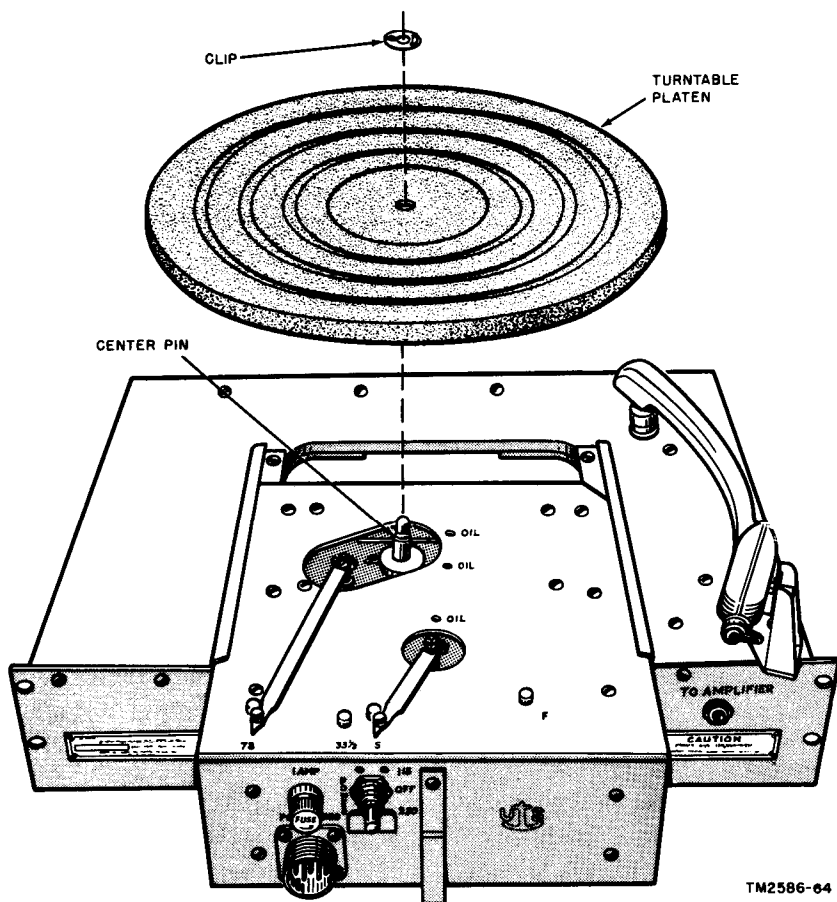

Figure 29. Turntable chassis, platen, and clip, extended view.
- (4) Place the tip of Knife TL-29 under the needle.
- (5) Pry the needle out.
- (6) Aline the thick end of the new needle with the needle hole in the pickup arm.
- (7) Insert the new needle into the hole. Be careful not to bend or damage the needle.
- (8) Turn the turnover knob to the other position if it is necessary to change the other needle, and proceed as instructed in (4) through (7) above.
- (9) Lower the pickup arm and set it on the pickup arm rest.
- c. *Turntable Platen* (fig. 29). To remove the turntable platen, proceed as follows:
- (1) Remove the clip that holds the turntable platen to the center pin by placing a screwdriver into the slot in the clip, and sliding the clip from the slot in the center pin.
- (2) Lift the platen from the center pin.
- (3) Oil the turntable unit or exchange the platen with a new platen.
- (4) Place the platen over the center pin, so that the pin sticks up through the hole in the center of the platen.
- (5) Replace the clip in the slot on the center pin. Slide the clip into the slot until the pin is centered in the hole in the clip.